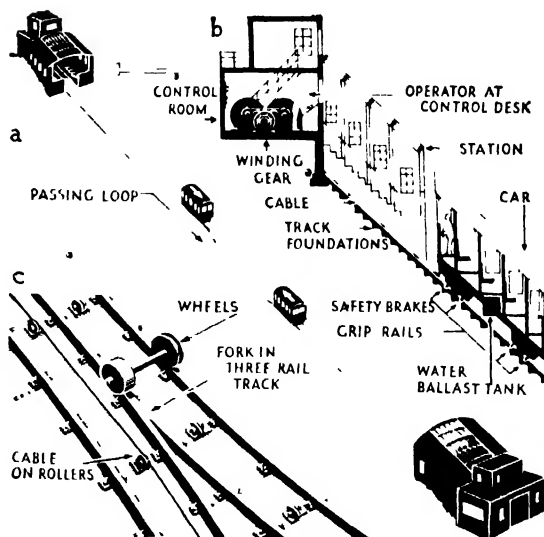

FIG. 2. FUNICULAR RAILWAY
2. ROPE HAULAGE. On gradients steeper than 1 in 2 even the rack-and-pinion propulsion would not be safe, and use is then made of the funicular principle, with rope haulage, between two stations. Two cars running on rails are connected by a haulage cable which is passed round the large drum of a winding-engine; this is usually operated at the higher of the two stations. The cars move simultaneously, one going down while the other goes up (Fig. 2). A single pair or three rails is enough, except for a loop exactly at the midway point, at which the two cars pass one another. The weight of the descending car, increased as necessary by the use of water-ballast, helps to pull up the car which is making the ascent. A railway of this kind is seldom more than a mile long. If the distance were greater, the weight of the cable would become unmanageable. On longer funicular